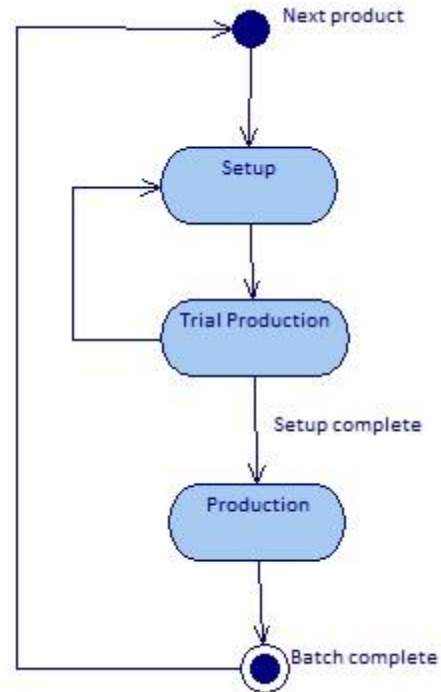

Figure 3: Production Equipment Behavior
1. Cyclic behavior of production devices. See figure 3.